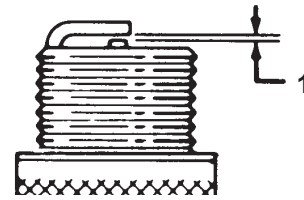

Figure 40
6. Set the gap between the electrodes on the spark plug at 0.030 in. (0.76 mm) as shown in Figure 40.